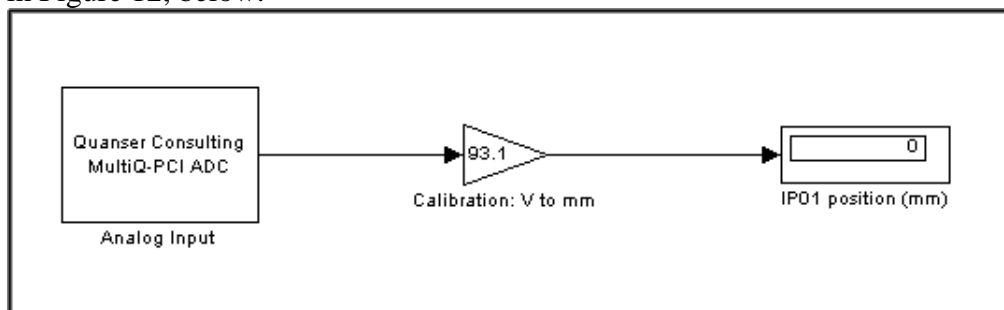

Figure 12 Measuring from the IP01 Cart Potentiometer
Step 1. Start a fresh Simulink diagram and create a model that looks like the one shown in Figure 12, below.